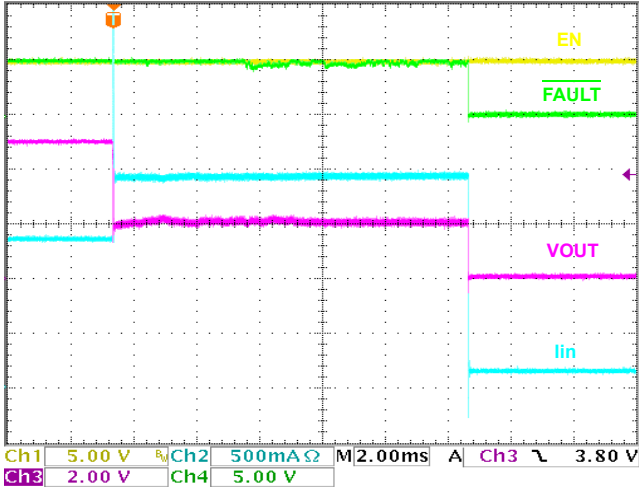

FIGURE 11. 1.5A VARIANT I_{LIM} WAVEFORM
The ISL6186 is a single channel overcurrent (OC) fault protection IC for the +2.5V to +5V environment. Each ISL6186 has a 45mΩ P-channel MOSFET power switch for power control. An enabling input and fault reporting output compatible with 2.5V to 5V logic allows for external control and reporting. This device features an integrated power switch with current monitoring, accurate current limiting, reverse bias protection, and current limited timed delay to turn-off for system reliability. See Figures 11 through 27 for typical operational waveforms including both undercurrent and overcurrent situations.
External current loading in excess of the trip current level for the particular part being evaluated will result in the ISL6186 entering current limiting mode. Figure 11 illustrates current limiting mode